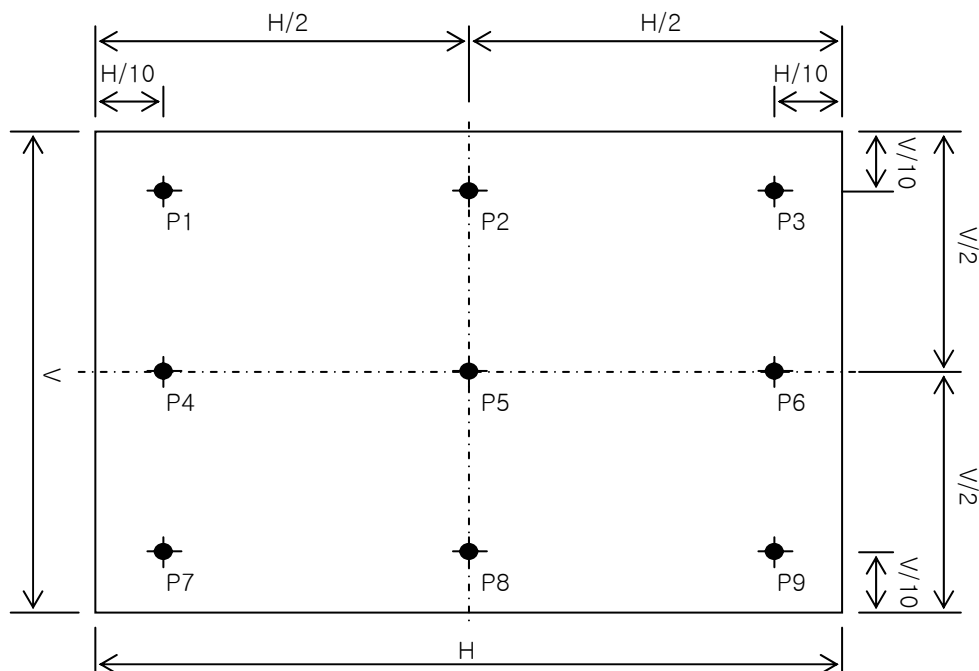

FIG. 2 Measure Point for Luminance variation
2. Surface luminance is the center point across the LCD surface 50cm from the surface with all pixels displaying white under the condition of IBL = 7.0mArms . For more information see FIG 2.
3. The variation in surface luminance , δ WHITE is determined by measuring LON at each test position 1 through 9, and then dividing the maximum LON of 9 points luminance by minimum LON of 9 points luminance. For more information see FIG 2